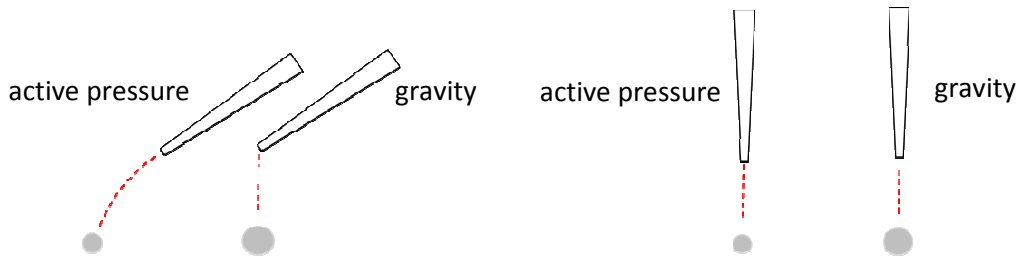

Figure 3. Sample placing trajectory
2. To generate active pressure shortly push the trigger to pressure mode. The active pressure for object releasing is needed in case of micro scale samples, electrostatic samples or if the suction pad is used. In case of active push you need to count with trajectory of sample release based on the initial angle of nozzle (Fig. 3).